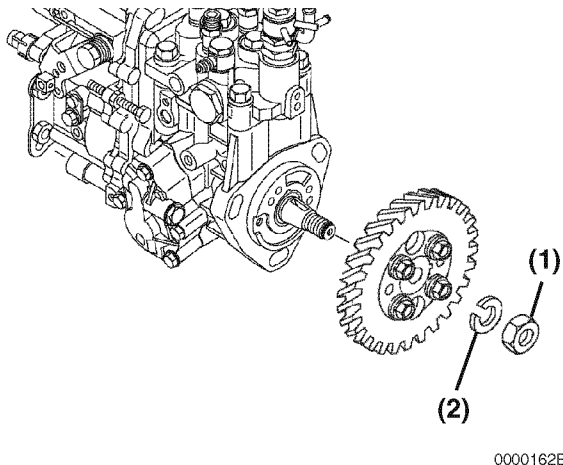

Figure 7-18
21. Once the fuel injection pump drive gear and hub assembly has "popped" loose from the tapered fuel injection pump drive shaft, carefully remove the drive gear nut (**Figure 7-18, (1)**) and lock washer (**Figure 7-18, (2)**).